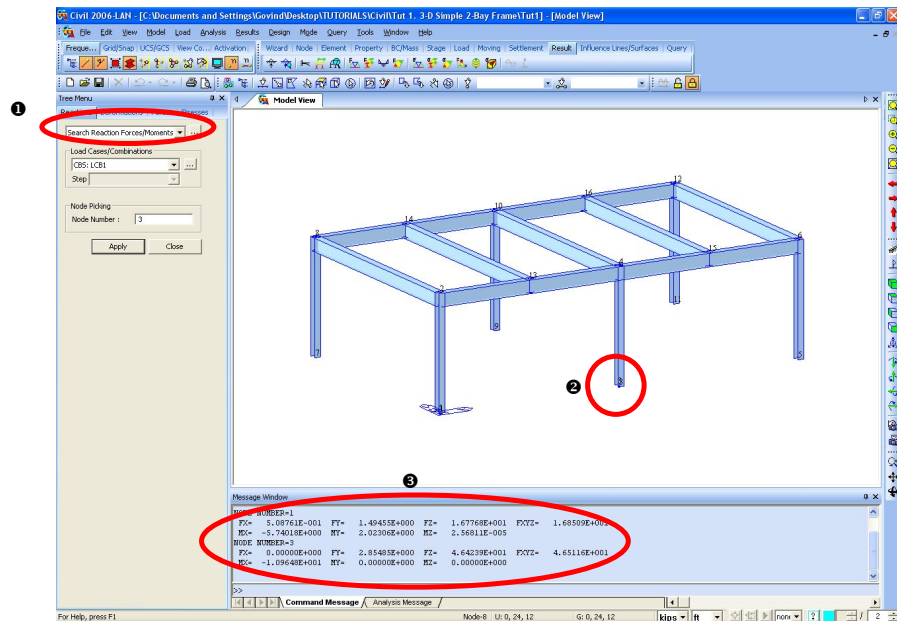

Figure 1.24 Verification of Reaction Forces at Specific Supports
1. Select **Search Reaction Forces/Moments** from the functions field (Fig.1.24-①).
By clicking the desired node with the mouse, the reaction values in the 6 restraint directions are displayed in the Message Window (Fig.1.24-③).